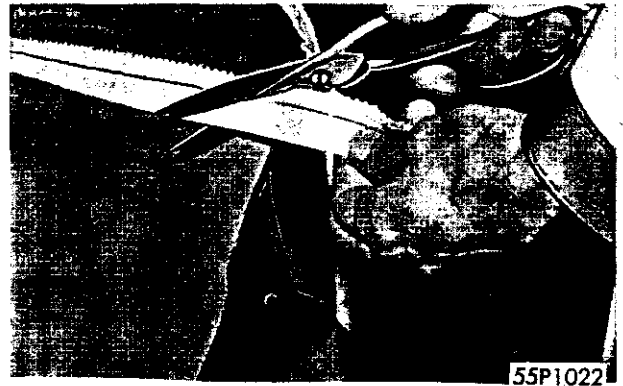

Fig. 61—Trimming Excess Listing Even with Edges of Headlining (Chrysler)
(1) Remove each bow from the old listing.
**NOTE:** Before installing the bows in the new headlining, trim the excess listing even with the edges of the headlining, as shown in Figure 61.
(2) Notch the headlining at the front and rear